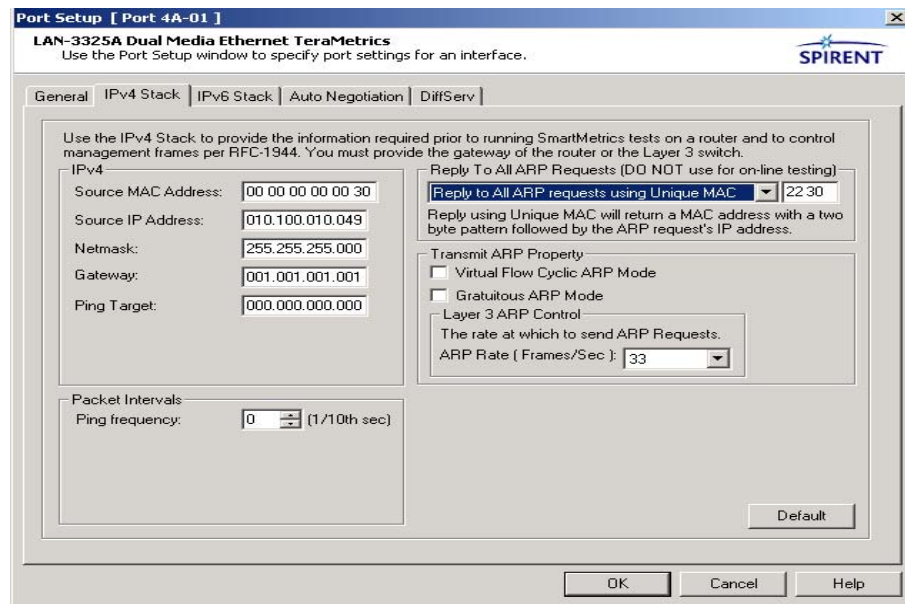

Figure 5-31. Enabling Virtual Flow Cyclic ARPs
- 4 Locate the bottom right pane labeled *Transmit ARP Property*, and select the **Virtual Flow Cyclic ARP Mode** checkbox (*Figure 5-31*).